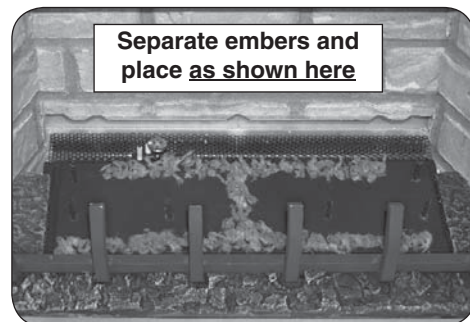

Fig. 31-1 D1-25: Place glowing embers
1. Separate the glowing embers into small pieces and evenly place them along the burner ports as shown in Fig. 31-1.